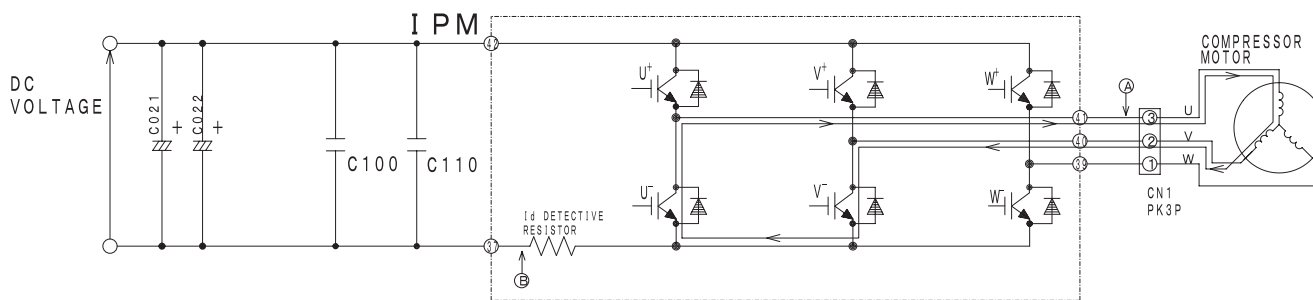

Fig. 4-4 Power module circuit (U+ is ON, V- is ON)
At point ⑥: U+ is chopped (OFF), V is ON (circuit in Fig. 4-4)
- (2) When U+ transistor is OFF: (by inductance of motor coil) U coil → V coil → V transistor → Return diode → Point ① (Fig. 4-4)